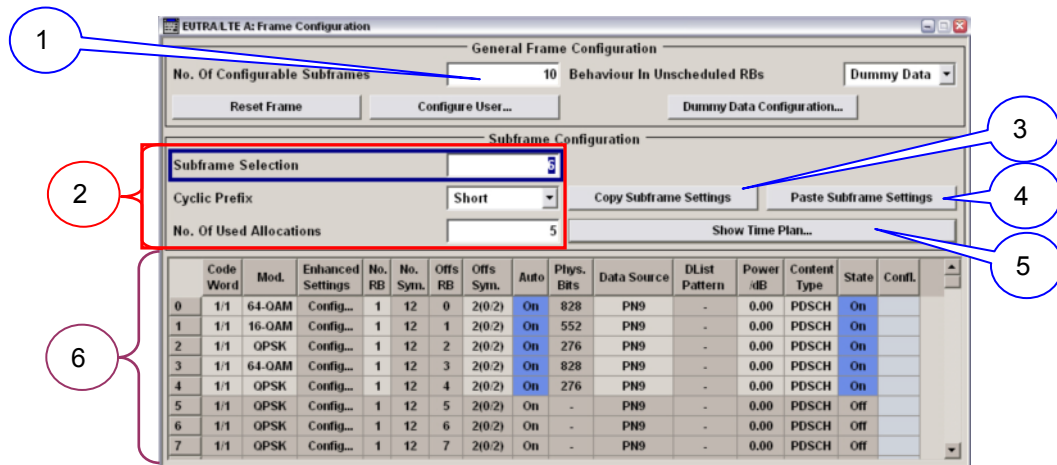

Figure 4-4 SMU EUTRA/LTE DL settings – Frame Configuration
- ⑦. Sub-menu for DL (resp. UL) frame configuration (Figure 4-4)